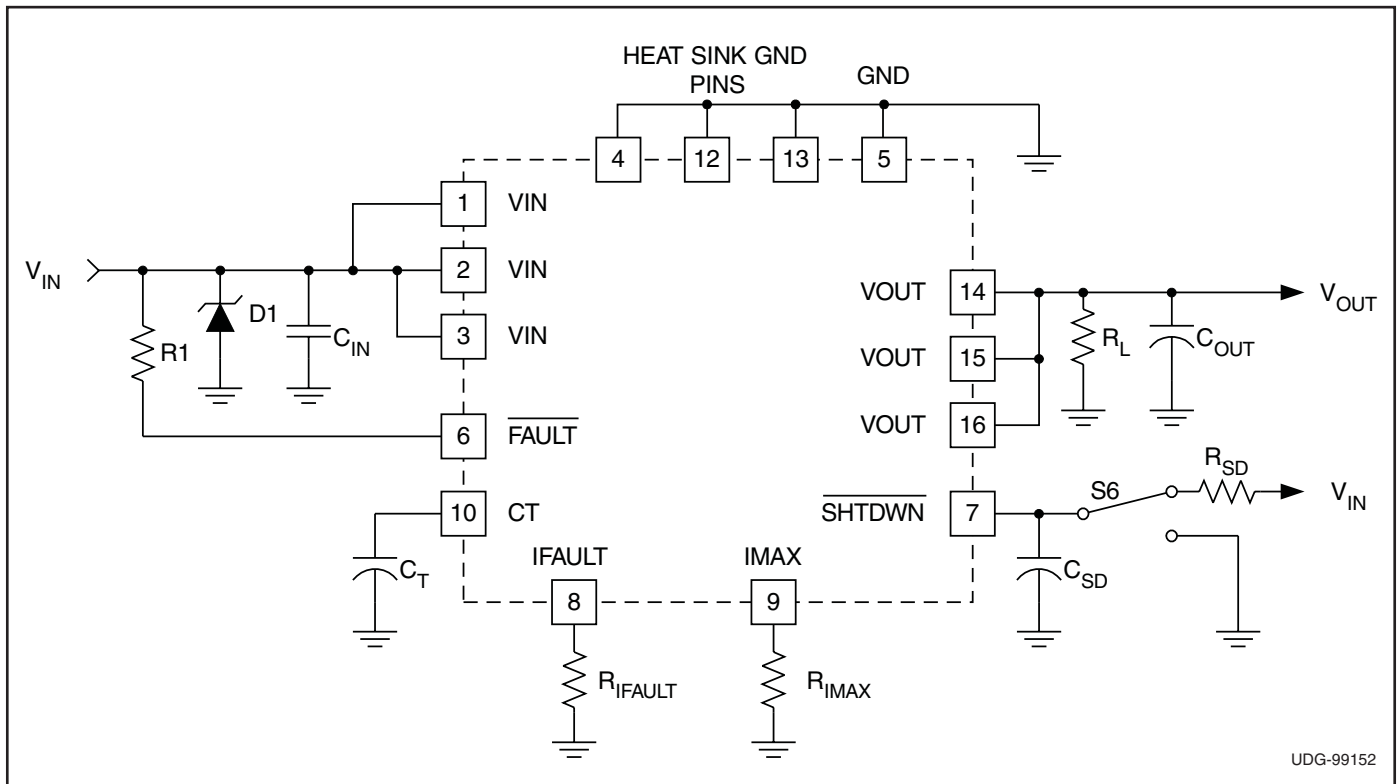

Figure 1. Evaluation circuit.
- Decoupling V_{IN} with a capacitor, C_{IN} (refer to Fig. 1), located close to the V_{IN} pin. This capacitor is typically less than 1 μ F to limit the inrush current.
- Clamping the voltage at V_{IN} below 6V with a Zener diode, D1 (refer to Fig. 1), located close to the V_{IN} pin.